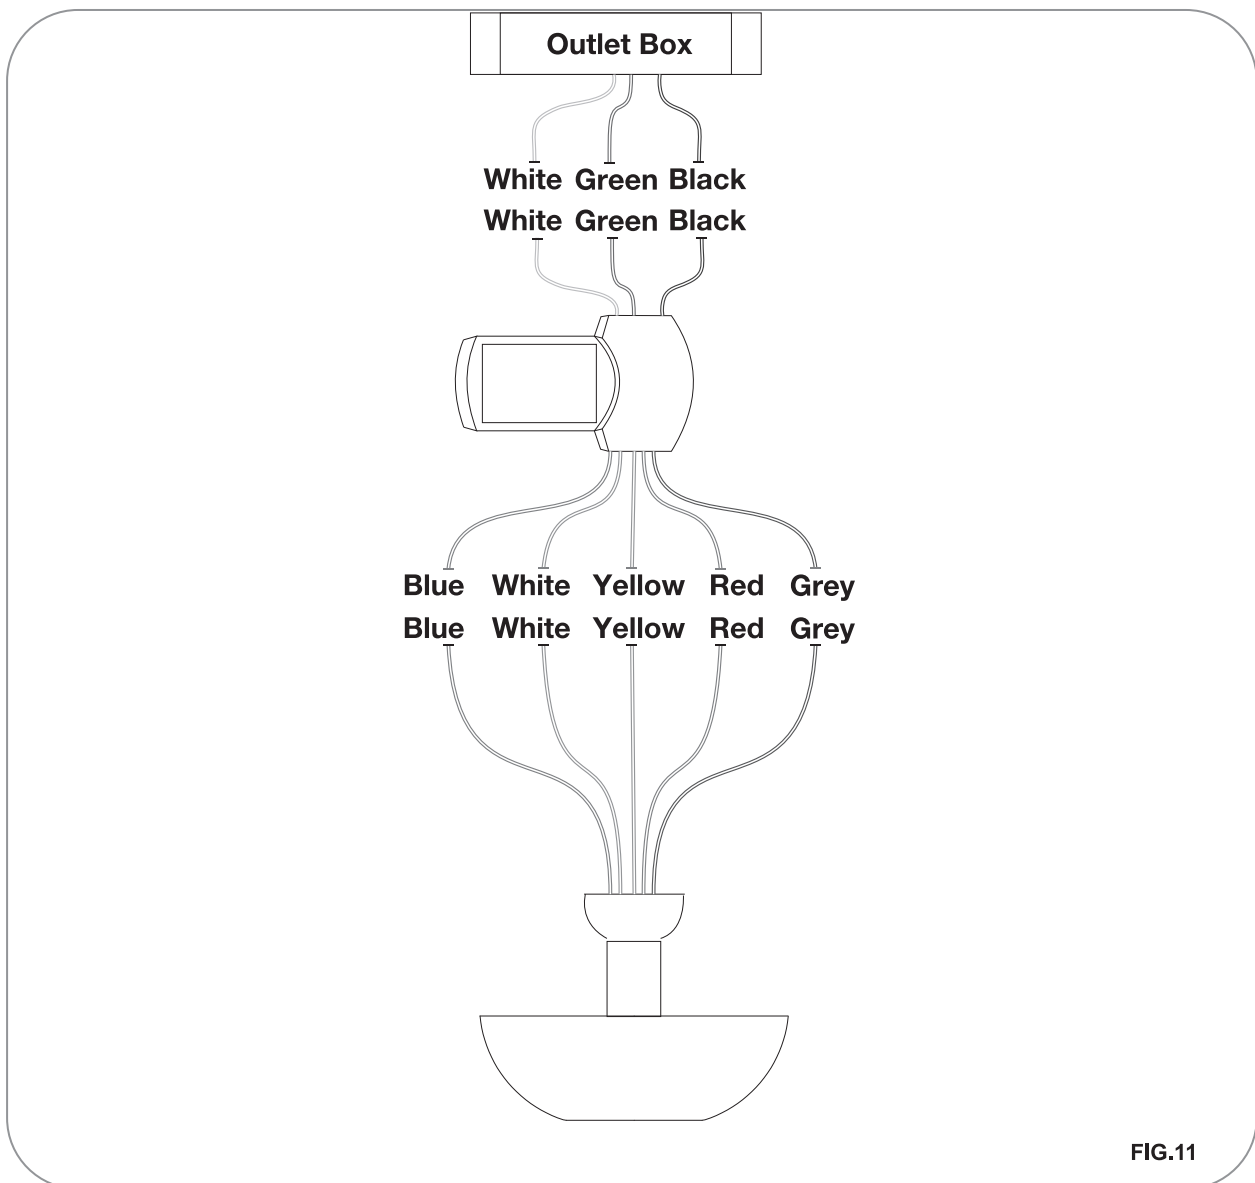

FIG.11
Step 3. If your outlet has a ground wire (Green or Bare Copper) connect the fan ground wires (from hanger ball and mounting bracket) to it; otherwise connect the fan ground wire wires from the hanger ball and mounting bracket together. (FIG.11)